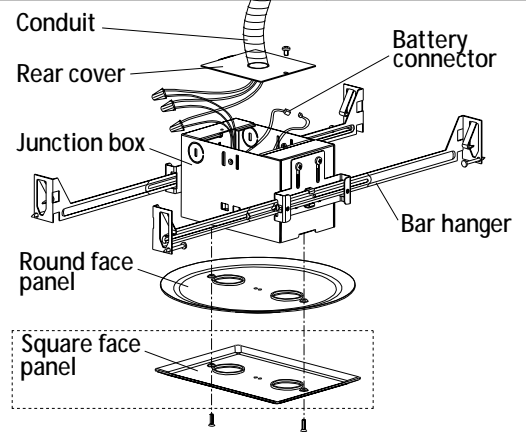

Fig. 4
2. Use a screwdriver to remove the rear cover, then install flexible conduit with the AC supply cable through the rear cover (refer to Fig. 4).
4. Secure the rear cover using M4*5 screws (refer to Fig. 4).
5. Secure the face panel using M3*15 screws (refer to Fig. 4).